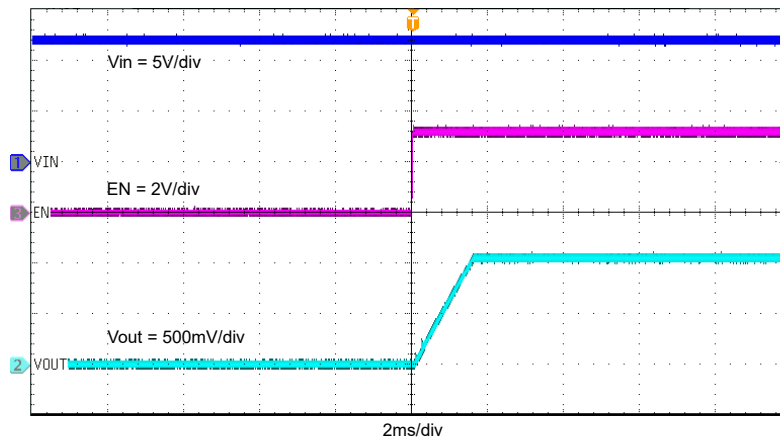

Figure 4-7. TPS562242BEVM Start-Up Relative to EN
Figure 4-7 shows the TPS562242BEVM start-up waveform relative to enable (EN). The load is 2A.